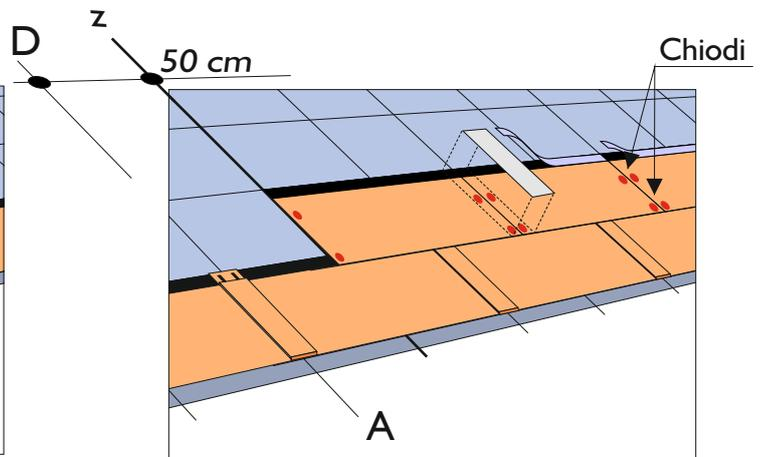

Fig. 9 - Second row of shingles
- The second row starts by aligning PRESTIGE COMPACT shingle along the line z (Fig. 9) then nail;
- remove the protection of the self adhesive fascia and install the "Compact Strip" (Fig. 9);